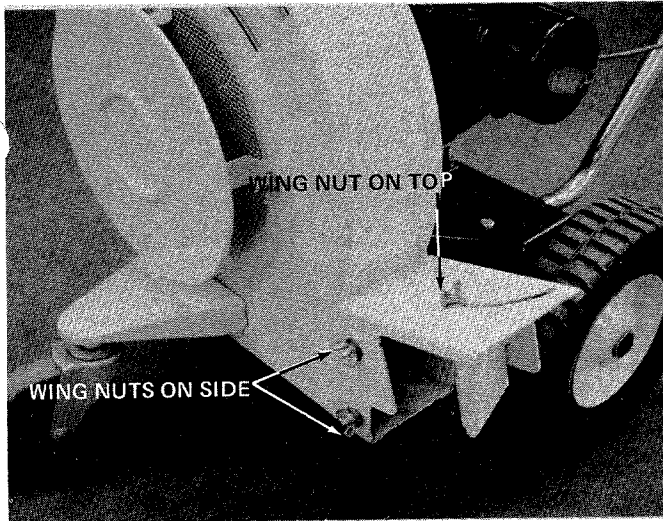

FIGURE 10
- Your Leaf Blower is equipped with an adjustable chute deflector. Simply loosen two wing nuts at each side of deflector to raise or lower. You also can direct the air by loosening the wing nut on top and moving the deflector from side to side. See figure 10.